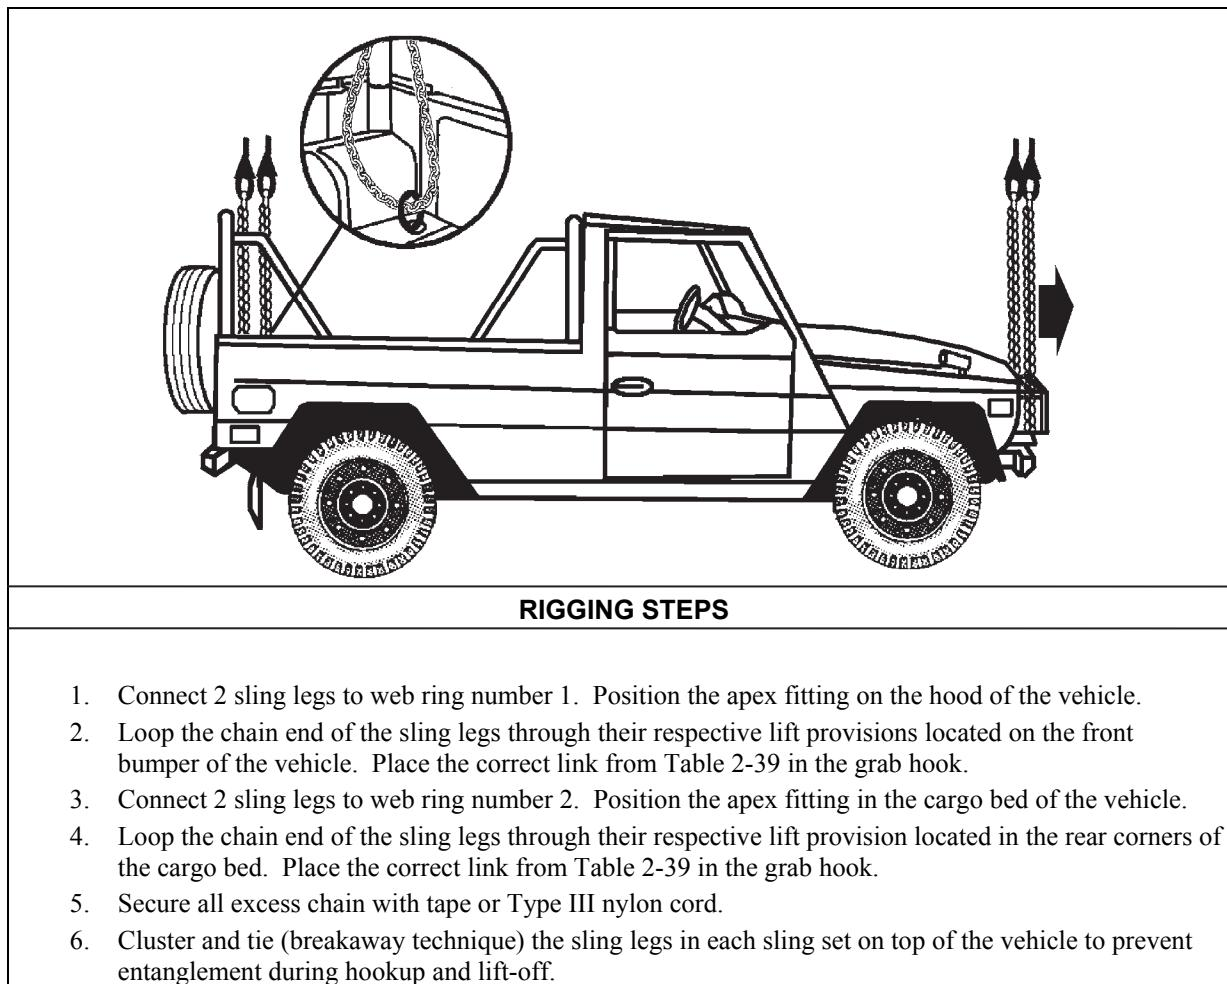

Figure 2-38. Interim Fast Attack Vehicle Truck, Long Wheel Base
- **Rigging.** Rig the load according to the steps in Figure 2-38.